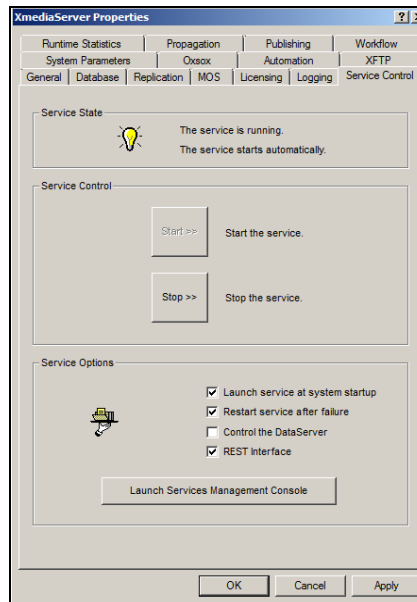

Figure 7-5. Stop and restart the XMS Service to apply the MOS server settings to the Xmedia Server
- a. On the Xmedia Server Control Panel and select the **SERVICE CONTROL** tab (figure 7-5).